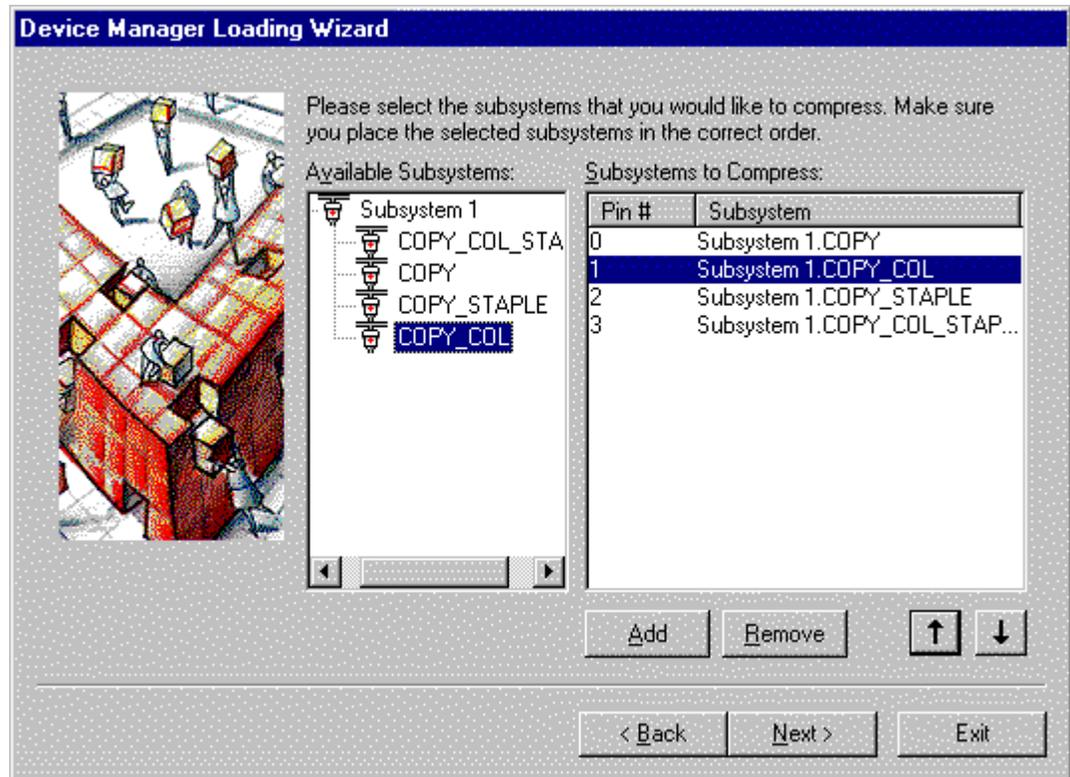

Figure 5.13 – Subsystem Selection
3. Using the Device Manager Loading Wizard, include all four subsystems in the managed device list as shown in figure 5.13.